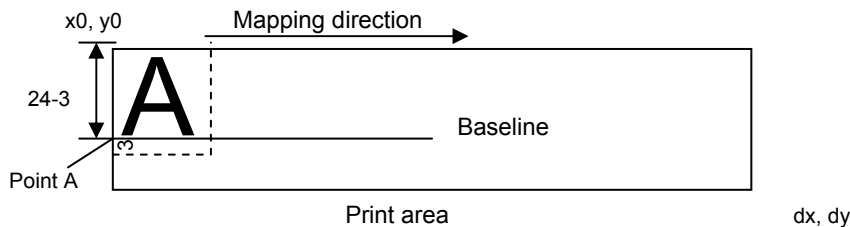

Figure 4-1 Mapping Position for Character Data
- (1) The print area is set by ESC W. When the printer has finished all of the print and paper feed actions specified before receiving an ESC W, the ESC W sets the right end (as viewed facing the printer) as the start point (x0, y0) of the print area. The print area is a rectangle defined by two edges extending from the start point (x0, y0): one edge running in the “x” (Horizontal) direction by “dx” pitch (inclusive of the start point), and the other running in the “y” (Vertical) direction by “dy” pitch. (If no ESC W is defined, the default values are used to define the print area.)
- (2) With a print area defined by ESC W and a print direction specified by ESC T, when the printer receives print data, the print data is mapped in the print area where point A (see the Figure 4-1 “Mapping Position for Character Data”) is used as the initial value of the start point. If the print data consists of characters, this start point serves as the baseline.